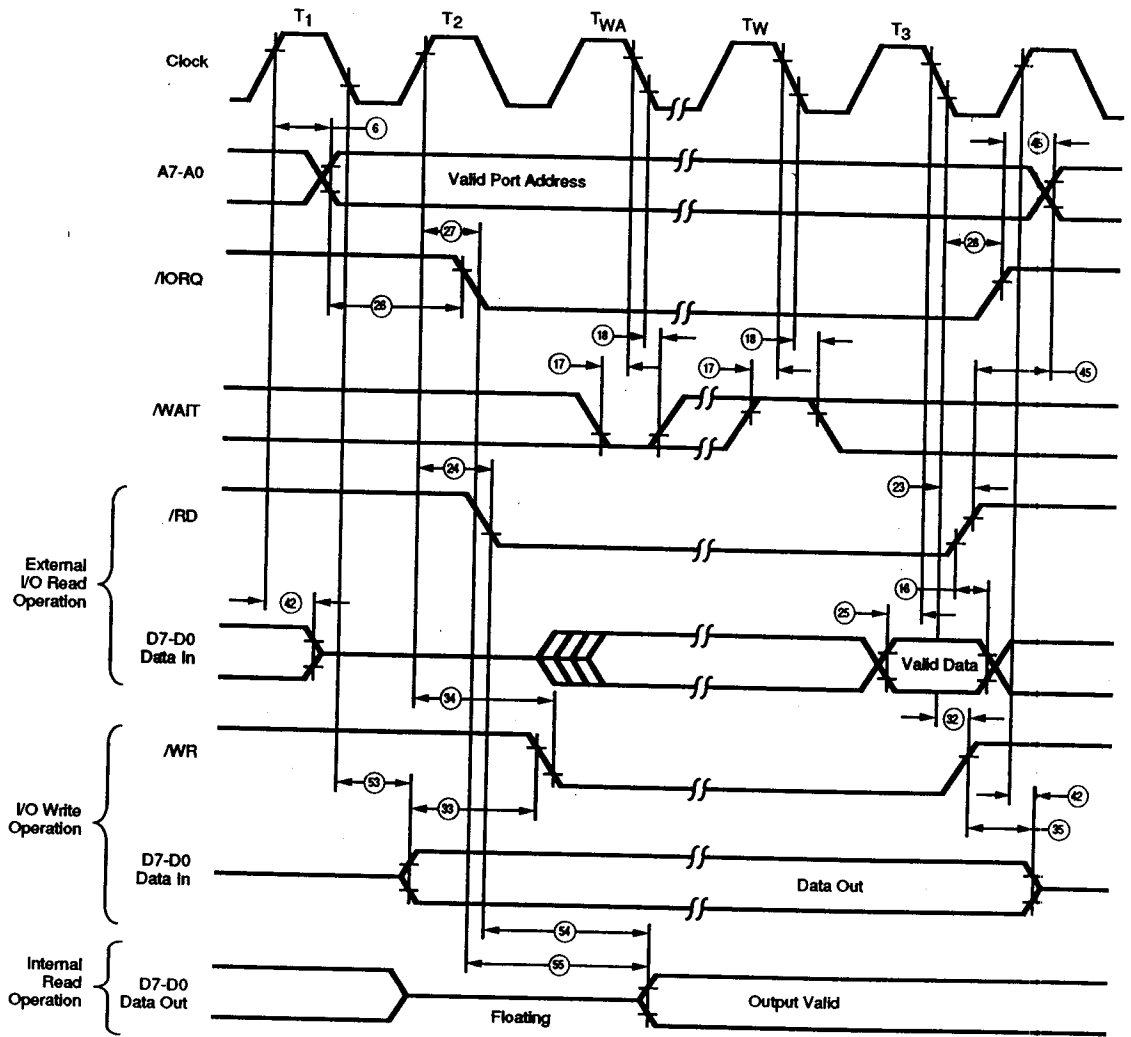

**Figure 42. Memory Read or Write Cycle**
**Memory Read or Write Cycles.** Figure 42 shows the timing of memory read or write cycles other than an Op-code fetch (M1) cycle. The /MREQ and /RD signals function like the Op-code fetch cycle.